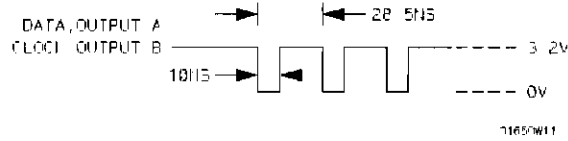

Figure 3-11. Waveform for Data Test 2
- Adjust pulse generator for the output in figure 3-11. Pulse generator settings are different for HP 1650B and HP 1651B.